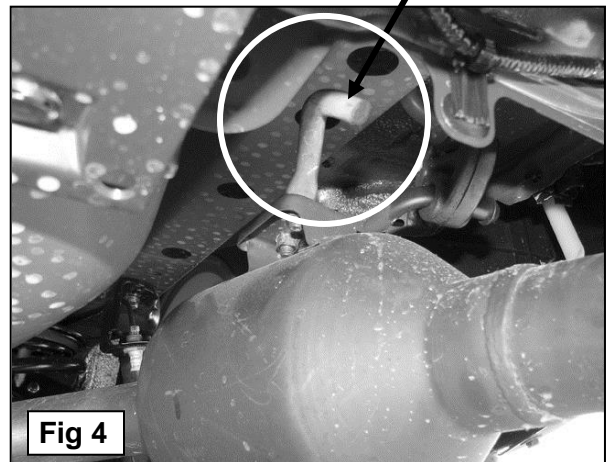

Fig 4
- Repeat **Steps 3 – 5** for the passenger side Bracket installation. **NOTE:** On some models, there may be an unused exhaust hanger hook attached to the muffler bracket. Remove unused hook if it can come in contact with passenger side Bracket, **(Figure 4)**.